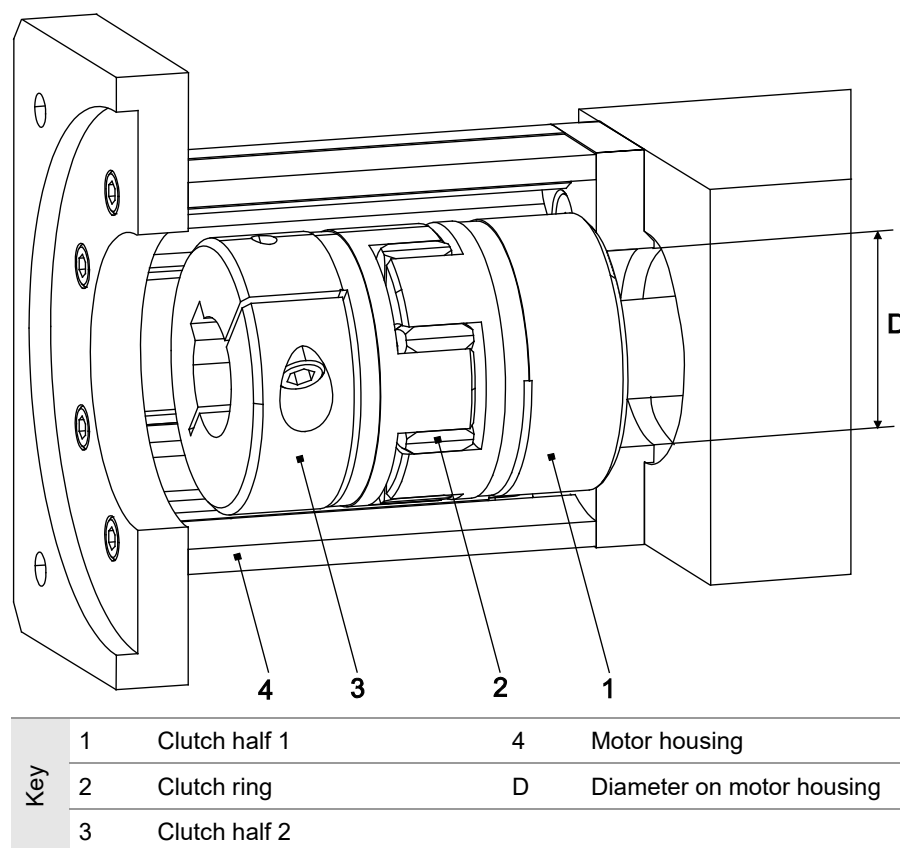

Figure 7: Motor housing with motor clutch on drive pin
3. If the clutch diameter is less than the measure D on the motor housing (4), first mount clutch half 1 (1) (hole flush with drive shaft) and then the motor housing (4) (Figure 7).